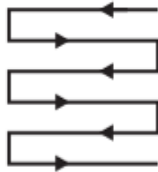

Fig. 17
5. Mow in slight overlapping rows. The most effective pattern for mowing lawns is straight lines along one of the sides. This will keep the rows even and ensures that all the lawn is cut without missing any spots (Fig. 17).